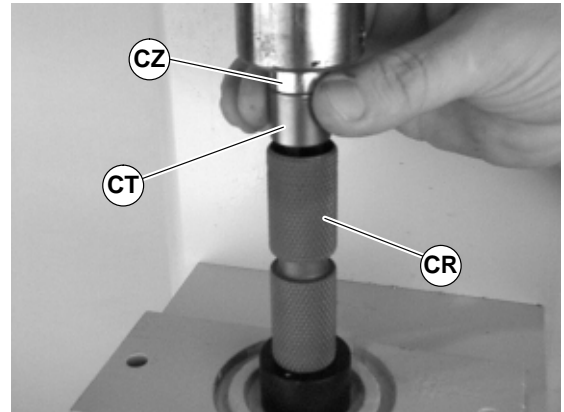

Figure 45
3. Place and hold bearing (CT of Figure 45), part number 21–33, onto insertion tool (CZ) in position over pulley (CR).